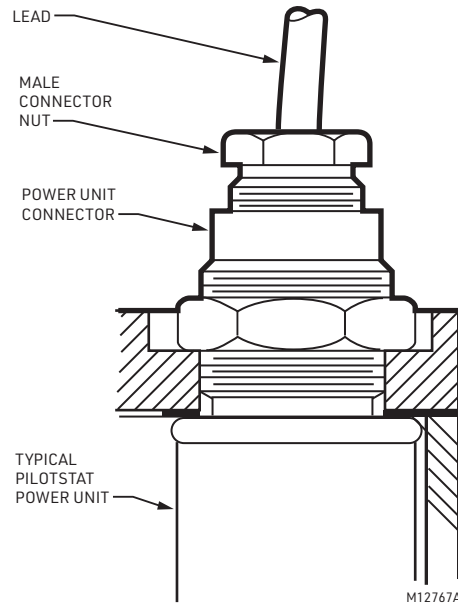

Fig. 7. Typical Pilotstat power unit connection.
1. Insert the end of the lead into the female connector on the Pilotstat power unit (see Fig. 7).